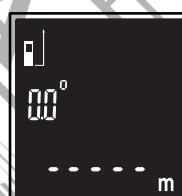

Fig. 3
## Switching on (Fig. 3)
- The default measuring reference is the bottom of the meter. (Fig. 3)